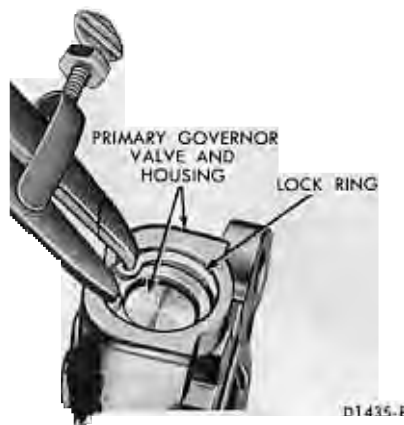

FIG. 86—Removing or Installing Retaining Ring
3. Remove the primary governor valve retaining ring (Fig. 86). Remove the washer, spring, and primary governor valve from the housing.